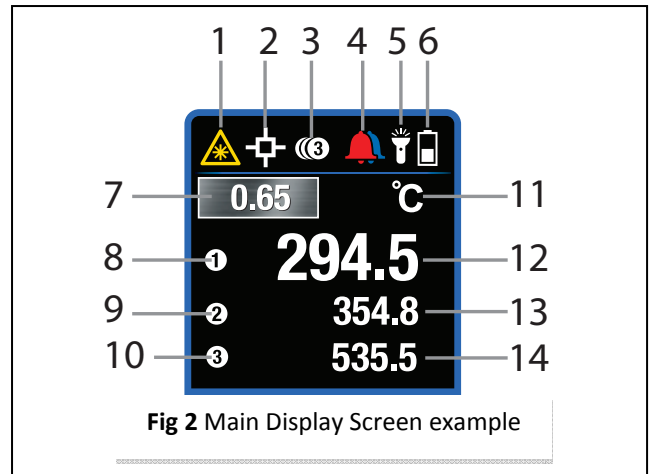

Fig 2 Main Display Screen example
- Refer to the display descriptions in Fig. 2 and the Distance to Spot ratio illustrations in Figs. 3 & 4.
Main Display Overview (Fig. 2)